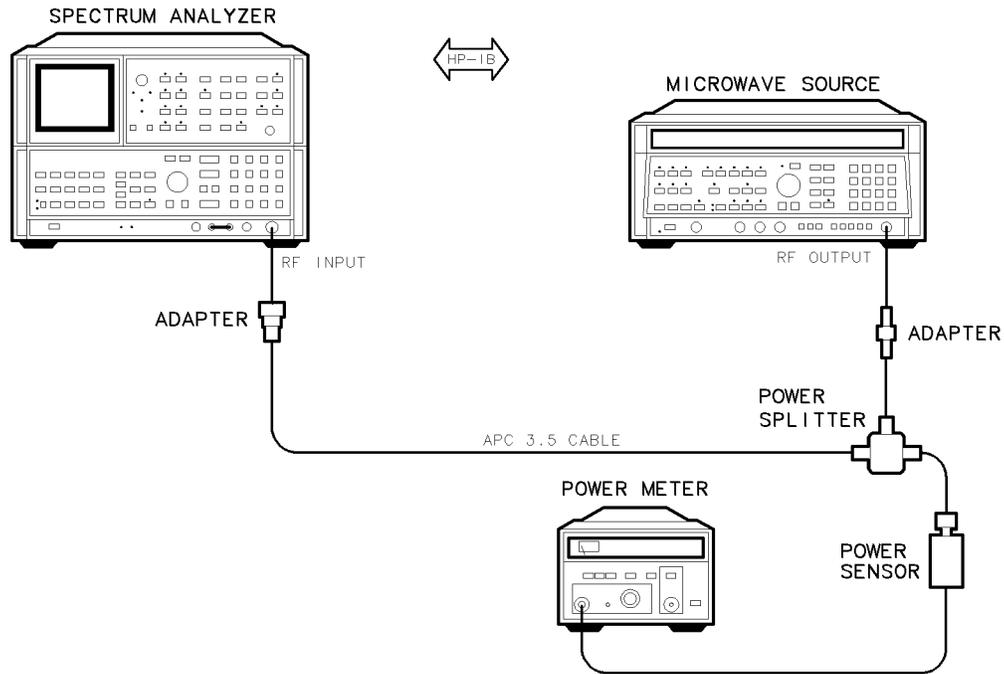

Figure 8-7. RF Calibration Test Setup
3. **RF Calibration** measures the frequency response of the spectrum analyzer. Figure 8-7 shows the required calibration setup.